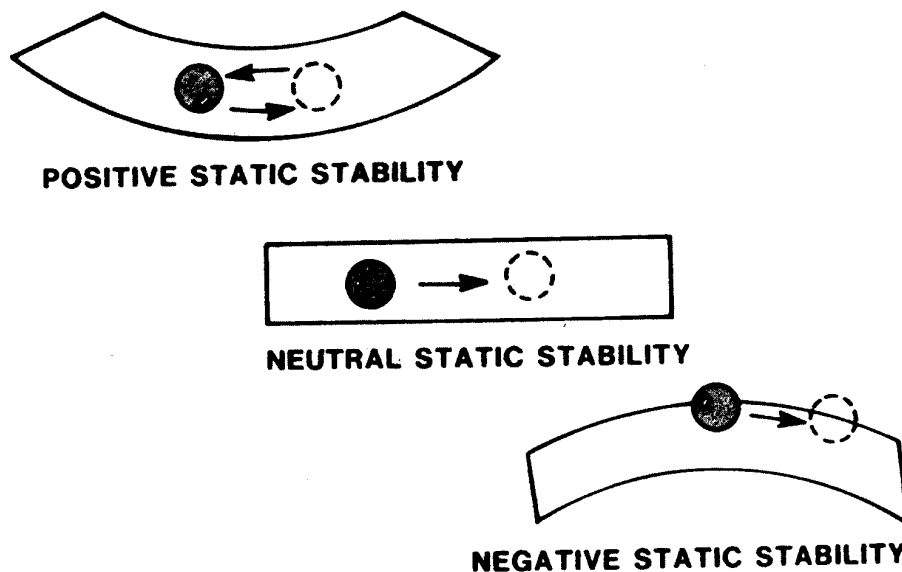

FIGURE 8. Static Stability
*c. Static Stability:* (negative) is when an aircraft tends to move further in the same direction as the disturbance that moved it from the initial equilibrium position (figure 8).